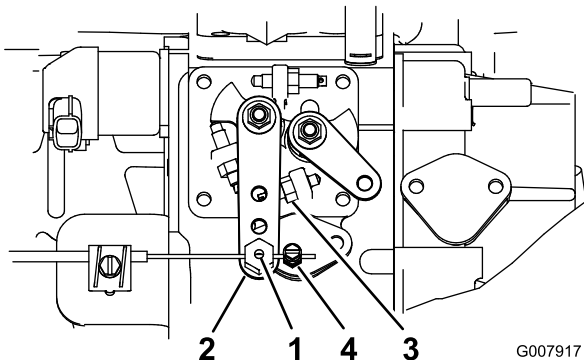

Figure 42
- Hold the injection pump lever arm against the high idle stop (Figure 42).
- Loosen the throttle cable connector, on the throttle cable, next to the injection pump lever (Figure 42).